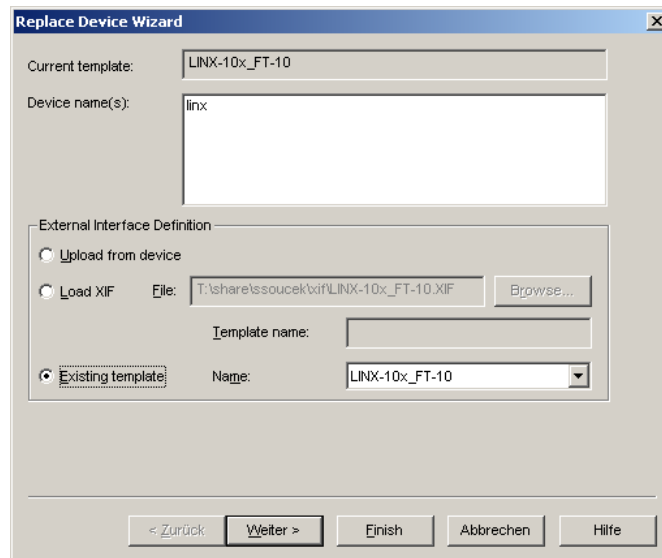

Figure 115: LonMaker replace device wizard.
2. Select **Commissioning** → **Replace....** This opens the LonMaker Replace Device Wizard as shown in Figure 115.